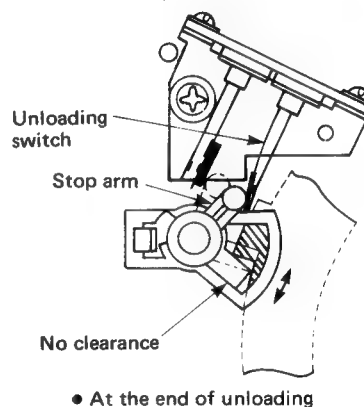

Figure 66.
2. As shown in Fig. 66, check that the stop arm is in contact with the unloading switch which is thus turned on.